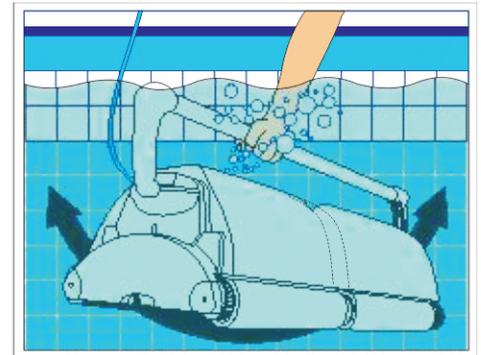

Fig.3
- (1) Locate a GFCI 110 V~ac. receptacle, and plug the Power Supply in.
- (2) Completely immerse the cleaner in water.
- (3) While the cleaner is in the water, gently tilt it side to side (fig3). This will allow any trapped air to escape through the pump outlets. Then, with a gentle push, allow the cleaner to sink to the bottom of the pool.
- (4) Uncoil the floating cable fully and spread it over the surface of the water as evenly as possible. Make sure the cable has no tangles or kinks.
- (5) To start the Commercial Pool Cleaner, press the Power Supply ON/OFF switch to the On position. If your Power Supply is equipped with an adjustable Timer you can now select the length of the cleaning cycle and press the Reset button to start the cleaner.